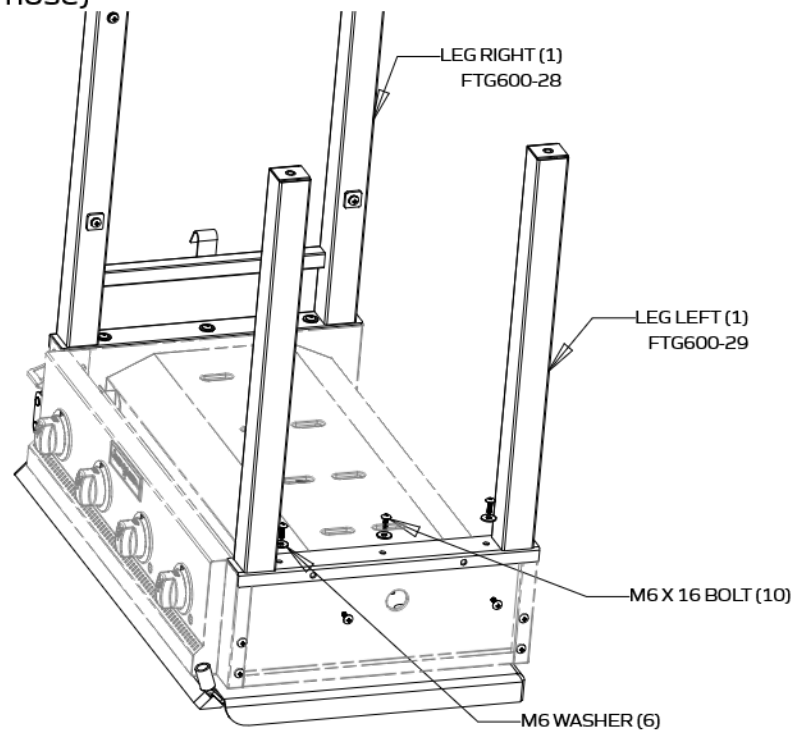

FIG 1
4. Assemble the legs to the bottom of the grill as shown using the hardware indicated in Figure 1.